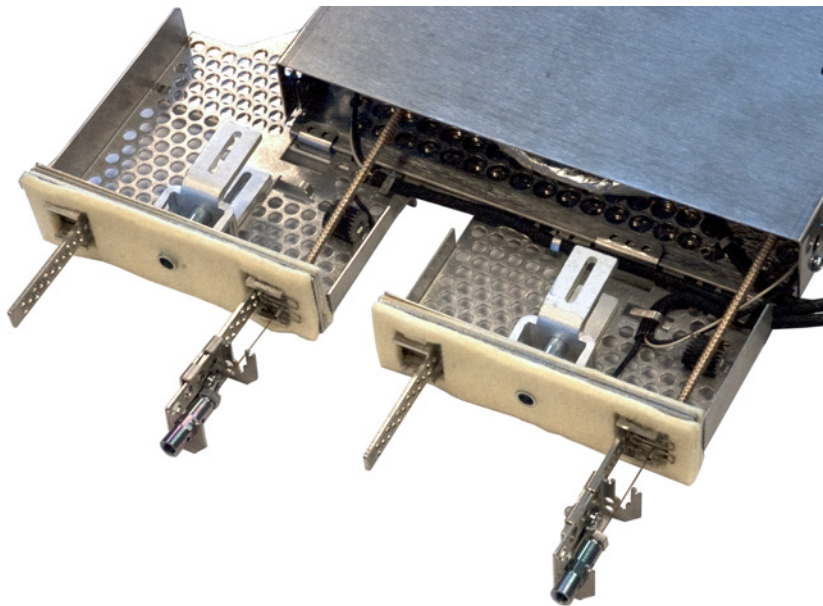

Figure 29. Gaskets installed on a 5-inch module assembly
- 5 Place a felt insulation gasket over the two rails and union connections on the transfer line module. Tuck the gaskets under the retaining springs for the transfer lines so that each sits evenly over the end face of the transfer line module. See Figure 29.